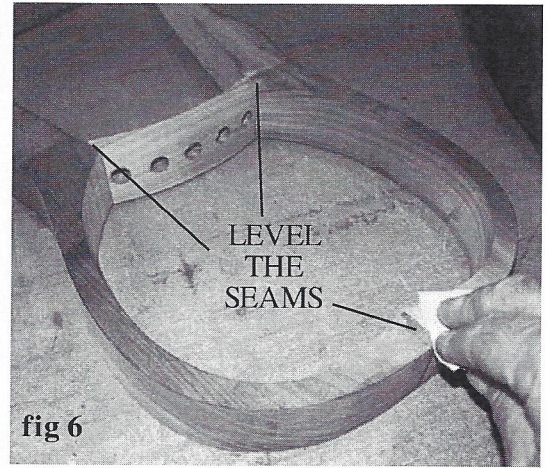

fig 6
6. When the glue is dry, remove the tape and check each glue joint for unevenness. Use coarse sandpaper to level the joints (taper the high parts down gradually) to achieve a smooth surface for gluing the soundboard and back panels to the frame (fig 6).